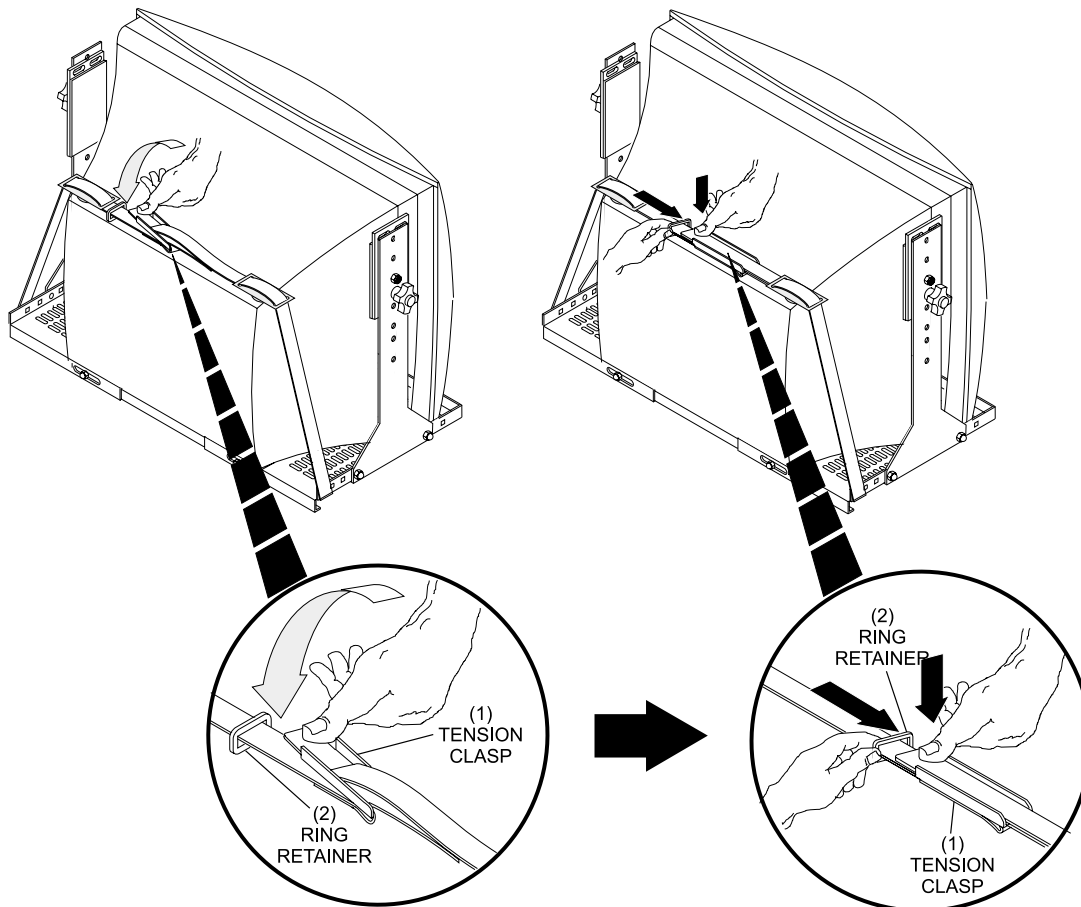

Figure 5. Secure Retaining Ring
5. Pull loose end of strap to create tension. Depress tension clasp flat against the strap and slide the retainer ring onto the clasp. Refer to *Figure 5*.